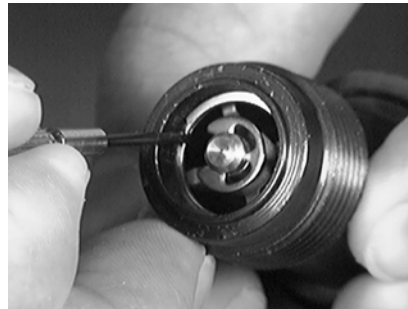

Figure 5-23
4. Use a small screwdriver or awl to remove the spiral retainer ring **9** by first carefully lifting the beveled edge of the retainer over the lip of the retaining ring groove (Figure 5-23).